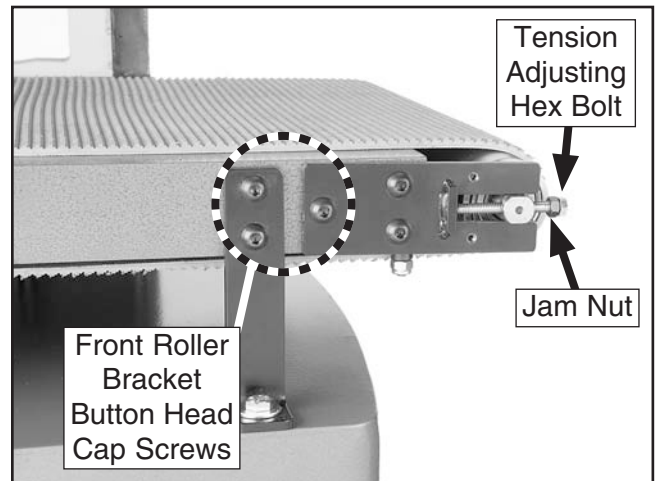

Figure 42. Conveyor belt tensioning fasteners and front roller bracket.
3. Use a 10mm wrench to loosen the conveyor adjusting jam nuts (left and right), then release the tension on the conveyor belt by loosening the tension adjusting hex bolts (see **Figure 42**).
4. Use a 5mm hex wrench to remove the three M8-1.25 x 18 button head cap screws securing the left front conveyor roller bracket (see **Figure 42**), then, while supporting the front conveyor roller assembly, remove the bracket.